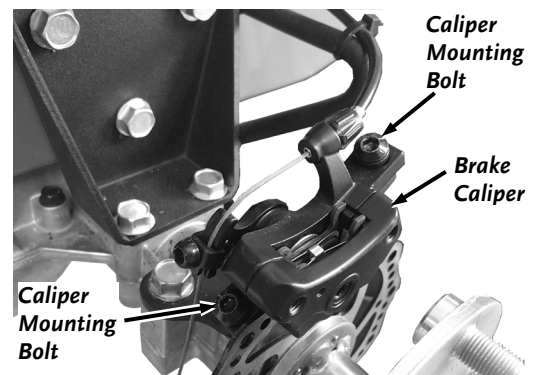

Figure 36
2. Using the 5.5mm Allen Wrench, loosen the Caliper Mounting Bolts 1 turn (**Figure 36**).